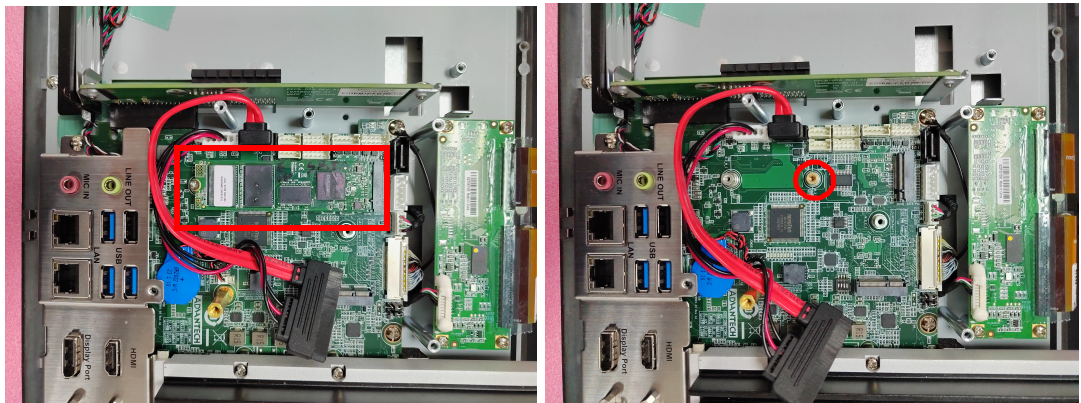

Figure 2.18
4. Add Thermal pad for M.2(see Fig.2.18).